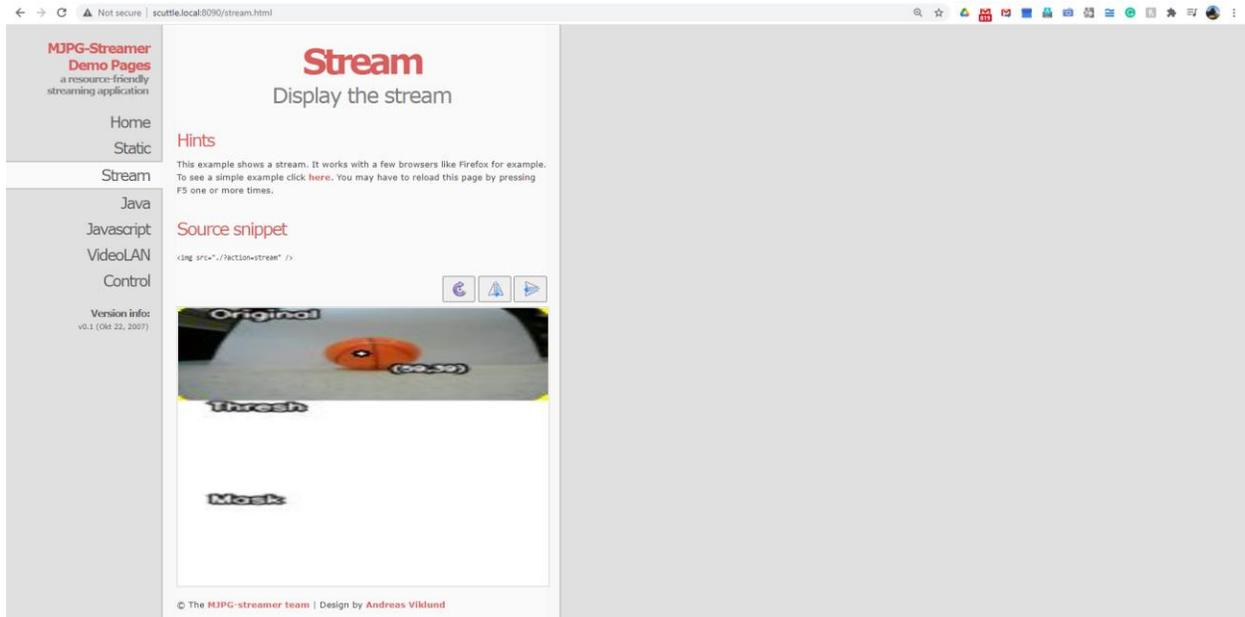

Figure 21
- a. This should open another tab in your browser that displays three live streams of the camera you have connected to the SCUTTLE which should look like Figure 21 below.